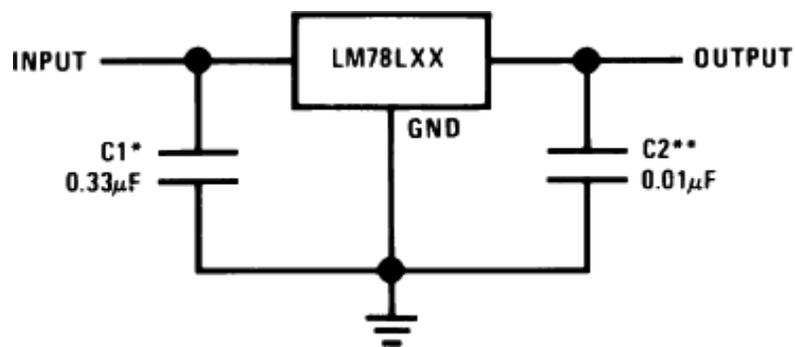

Figure 24.2: IC78XX as positive voltage regulator
1. Connect the circuit as in figure 24.2